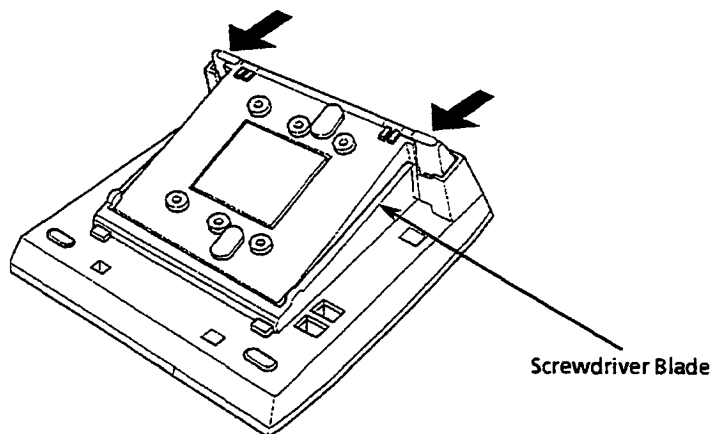

Figure 1-73 Unlatch the Cover on the Digital Multiline Terminal
3. Unlatch the cover by pressing the areas indicated in Figure 1-73 Unlatch the Cover on the Digital Multiline Terminal. Using a straight blade screwdriver, press the blade between the cover and the base to release the tabs.